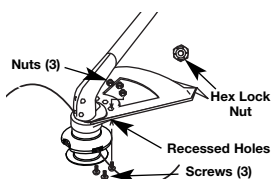

Fig. 4
2. Place a hex lock nut into one of the three recessed holes on the top of the cutting attachment shield (Fig 4).
3. Install a screw into the hole from the bottom of the cutting attachment shield and screw it into the nut installed in step 2 (Fig. 4). Do not tighten.